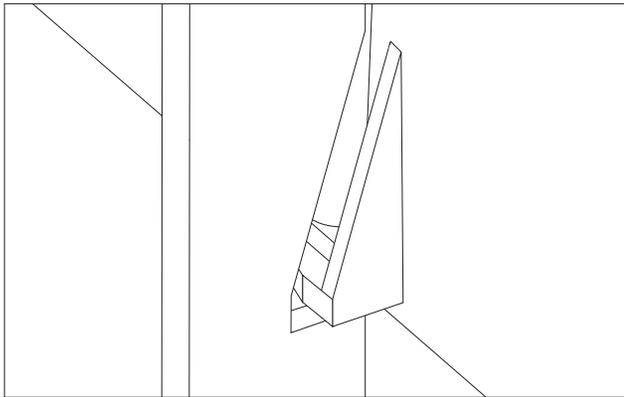

Fig 8-5 Battery Module Retaining Flange
*Note: The safety stop retaining flange passes through the notch in the frame as the battery module is removed. See figure 8-5.*